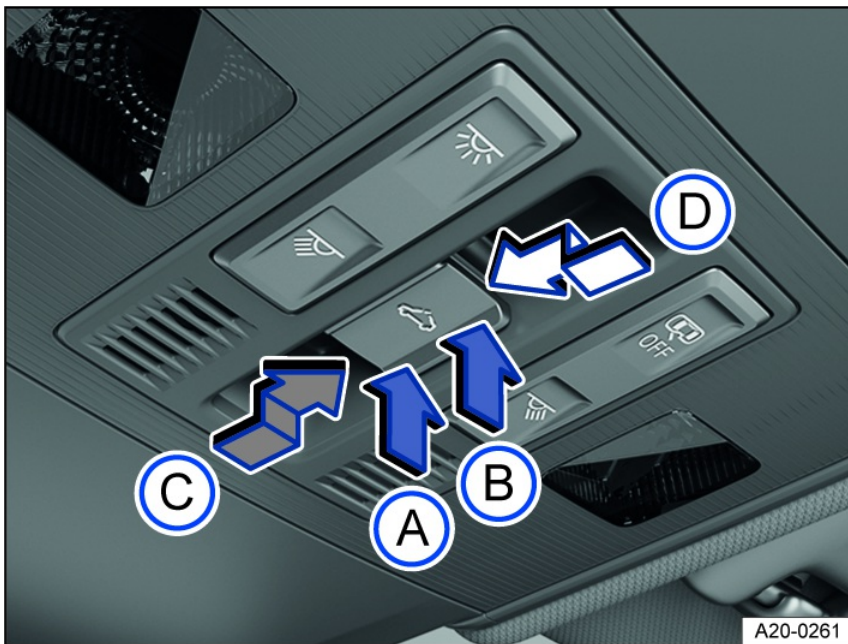

Fig. 65 In the headliner: sunroof button.
- Manual process: press the fig. 65 button until the first level is reached.
- Automatic process: press the fig. 65 button until the second level is reached.
- Automatic process up to comfort position: press the fig. 65 button until the second level is reached.
1. Press the *fig. 65* or *fig. 65* button again.